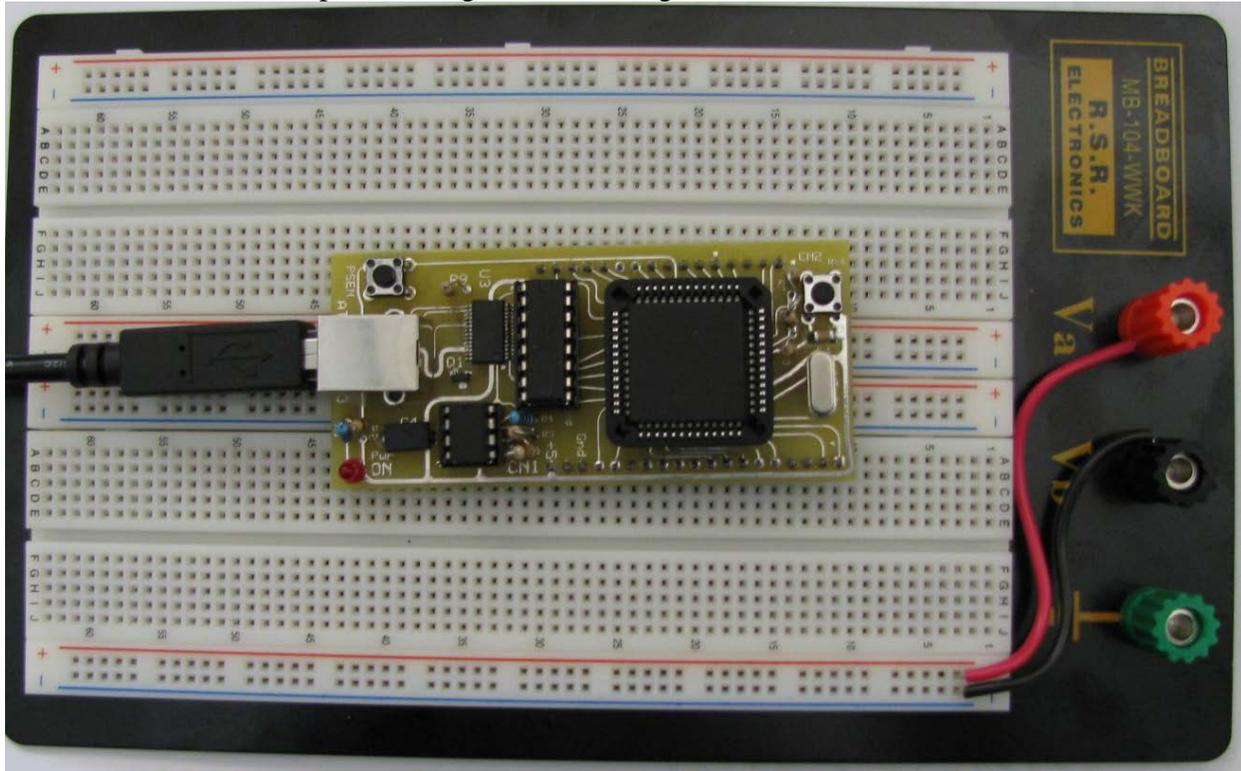

Figure 3
You will need a breadboard (see Figure 3), a downloaded zip test file called BdTestCC03.zip from the web site at <http://csserver.evansville.edu/~blandfor/EE354/index.htm> plus access to a computer with a serial port running Flip. (You can download Flip from the Atmel web site at http://www.atmel.com/dyn/products/tools.asp?family_id=604
1. Your board is made to plug into a standard plug board as shown in Figure 3. Note that you want to put the board in place such that it straddles the center of the plug board. Do not put